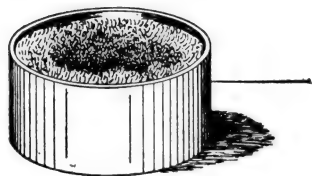

Fig. 3. Location of Poles of Magnet
**Poles of a Magnet.** If a magnet is dipped into iron filings, the filings are observed to cling in tufts near the ends, but scarcely at all near the middle, Fig. 3. These places near the ends of the magnet, in which its strength seems to be concentrated, are called the *poles* of the magnet. It has been decided to call the end of a freely suspended magnet which points to the north the *north-seeking* or *north pole*, and it is commonly designated by the letter *N*. The other end is called the *south-seeking* or *south pole*, and is designated by the letter *S*. The direction in which the compass needle points is called the *magnetic meridian*.
magnet and therefore repelled. Since the latter pole is farther away from the magnet, its repulsion is overbalanced by the attraction existing between the pole on the magnet and the adjacent unlike pole that it induces in the iron. The result, therefore, is that the iron is drawn toward the magnet. Magnetic induction also explains the formation of the tufts of iron filings shown in Fig. 3. Each little filing becomes a temporary magnet, the end of each filing which points toward the inducing pole of the magnet being unlike this pole, and the end which points away from it being like the inducing magnet pole. The bush-like appearance is due to the repulsive action which the outside free poles of the filings exert upon each other.